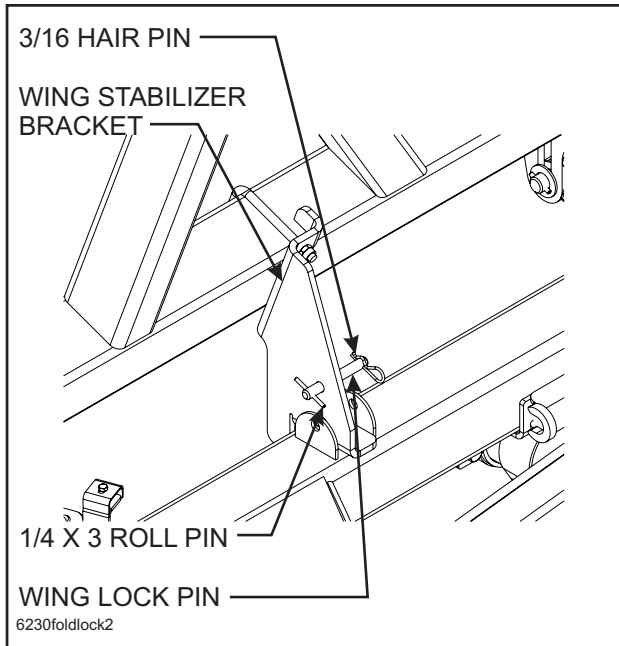

Figure 4-6 Stored Position of Transport Locks
- 4-7.2** Remove the wing lock pins and store in the extra hole in the hinge bracket. Unfold the wings and extend the fold cylinders completely (**See Figure 4-6**).